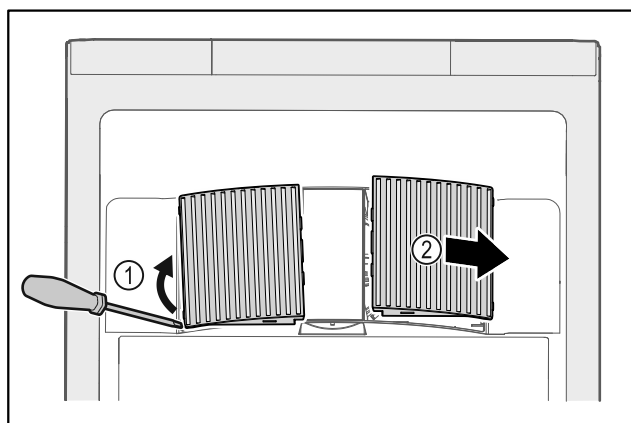

Fig. 163
- Carefully lever out fan covers from the side Fig. 163 (1) and remove towards the front Fig. 163 (2).